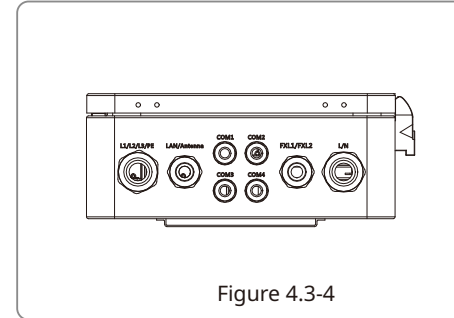

Figure 4.3-4
1. The SCB3000 can be placed horizontally, as shown in Figure 4.3-4.